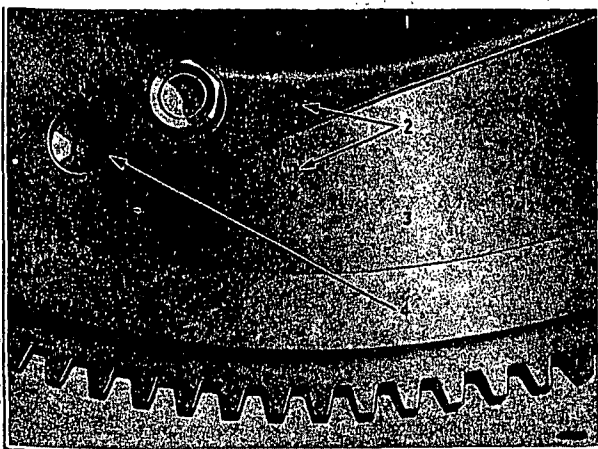

Fig. 87 Punch Marks on Clutch Cover and Flywheel.
Before removing clutch from flywheel, mark with a punch the flywheel, clutch cover and one pressure plate lug, so that these parts may be assembled in their same relative positions, as they were balanced as an assembly. (See fig. 87.) Loosen the holding screws a turn or two at a time in rotation to avoid bending rim of cover. When removing driven plate be sure to mark flywheel side.
6. The cover may then be lifted off and all parts will be available for inspection (Fig. 87 and 91).